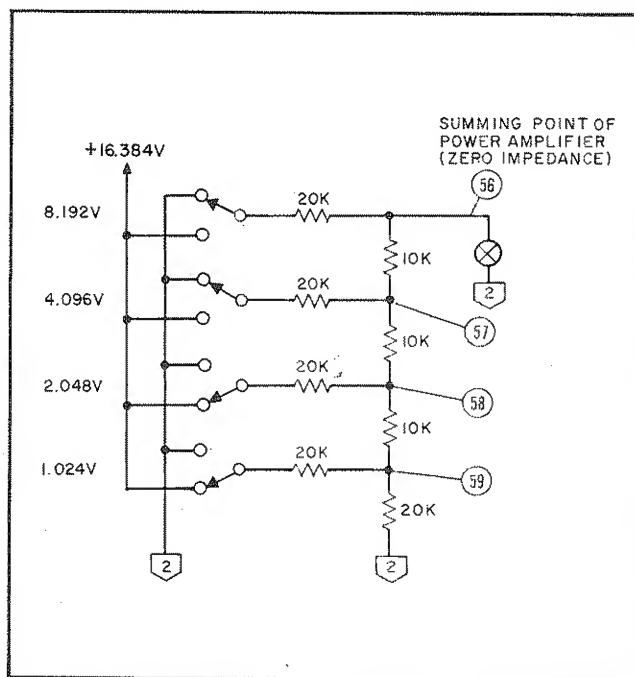

Figure 4-5. Ladder Network, Simplified Schematic
4-79 In the simplified schematic of Figure 4-5, the switching transistors are represented by mechanical switches connecting each of the four rungs in the analog ladder network to either 16.384V or ground (2). Again, the switch positions represent the binary input of 1100, the four most significant bits of the inverted input of 4 volts.
4-82 Potentiometers A3R52 through A3R59 are adjusted to compensate for the conducting resistances of Q2-Q3 and resistance tolerances within the network. With these controls properly adjusted, the total series resistances in each rung are 20KΩ as shown in Figures 4-5 and 4-6. Notice that the output current of each of the four ladder networks are weighted in powers of 16. Thus, resistor A3R92 divides the output current of that rung by 16, resistors A3R93, R94 divide the next rung output current by 256 and resistors A3R95, R96 divide the output current of the remaining rung by 4096.